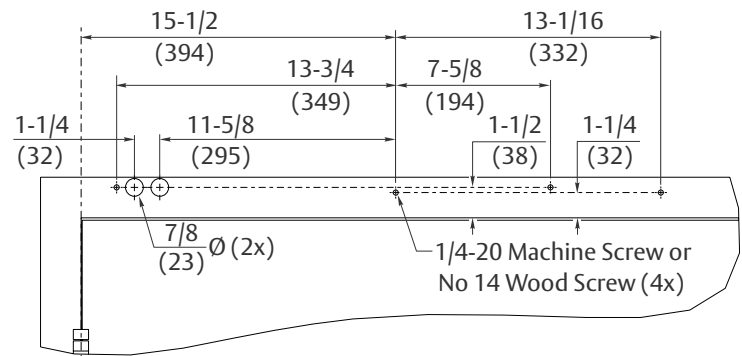

Figure 3 Right Hand Shown
4. Using detailed template on page 15, prepare four (4) holes for 1/4-20 machine screws or 14 x 2-3/4" sheet metal screws. Blind rivet nut (by others) is suggested for unreinforced hollow metal or aluminum frames. (Figure 3)
5. For concealed mounted conduit (if applicable): Prepare two (2) 7/8" (22mm) diameter holes for conduit, for power input and for switch/sensor wires.